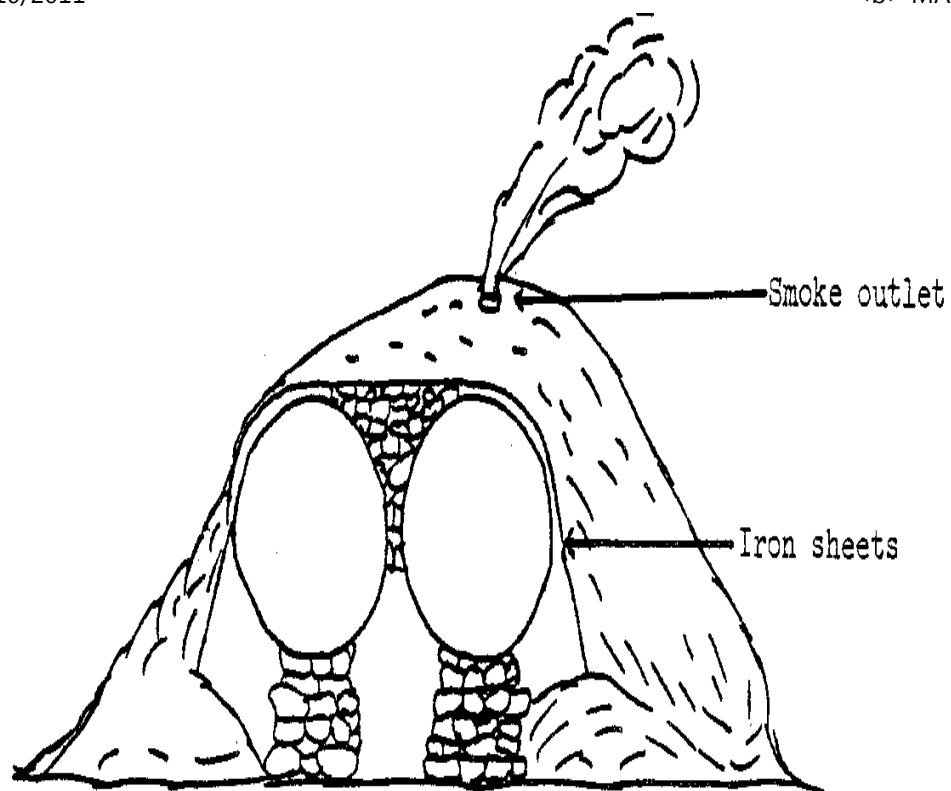

Figure 12
* Make one or two holes at the far end of the roof. These will let out the smoke. <see figure 12>